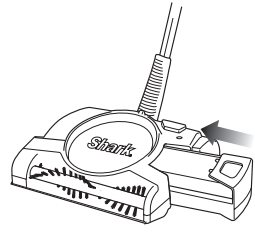

Fig. 11
- 3** Re-insert the dust container into the unit. (**Fig. 11**)